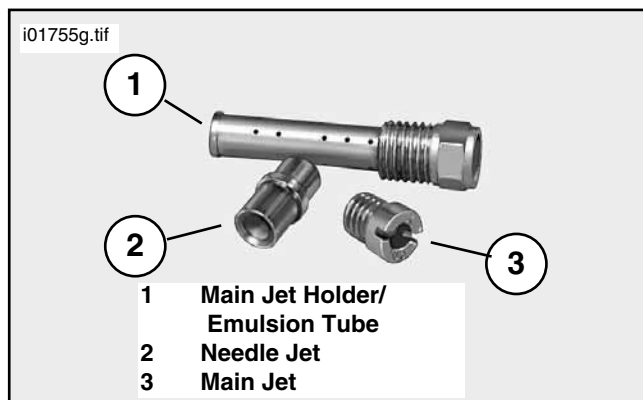

Figure 2. Stock Carburetor Jets and Holder
1. See Figure 2 and Service Parts Illustration. Place the carburetor upside down on a bench. Remove the carburetor float bowl. Remove the stock main jet and emulsion tube, sometimes referred to as the main jet holder. Ensure that the Needle Jet does not fall out during this procedure. Replace the stock emulsion tube with the new DYNOJET emulsion tube (14) provided. When the DYNOJET emulsion tube is fully seated, there will still be threads visible. Install the new DYNOJET main jet provided. Use the BJ165 main jet with a completely stock bike. Use the BJ175 main jet with an aftermarket slip-on and airbox. With a complete aftermarket exhaust with a high flow baffle and airbox use the BJ185 main jet. With extensive engine modifications, ie: cams, head work, airbox and high flow aftermarket exhaust, it may be necessary to use the BJ195 main jet.